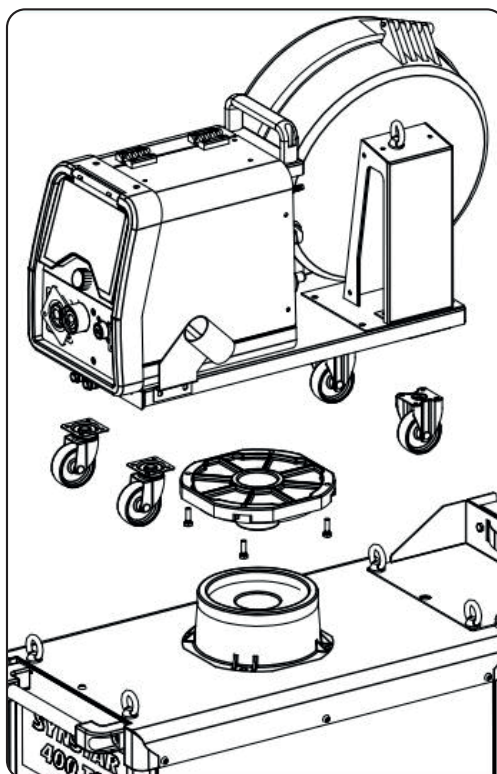

Fig. 2.
- ◆ Fit the male support to the wire feeder and the female support to the power source (see fig. 2). The small wheels must be mounted on the wire feeder base, together with the torch support (see fig. 2). The assembled wire feeder must be positioned on the power source support.